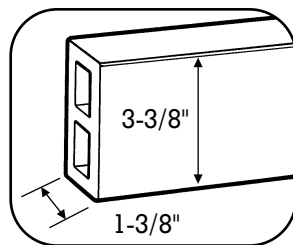

Fig. 27
- Side Rail (13' length; approximately 1.8 lb. per ft.) (Fig. 27)